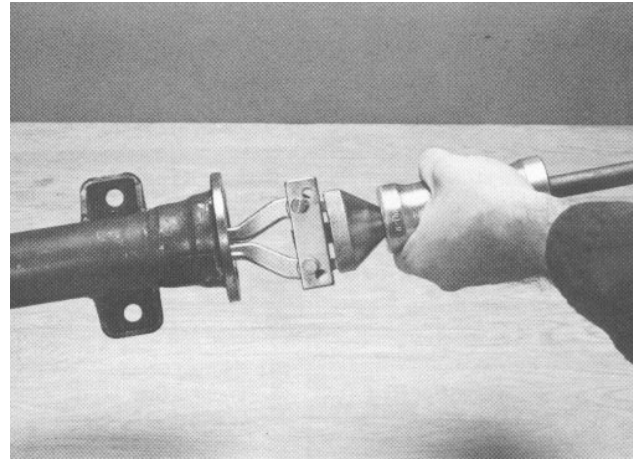

Figure 8
4. Remove the inner axle shaft seal (Fig. 8). Discard the seal and replace with a new one at the time of assembly.